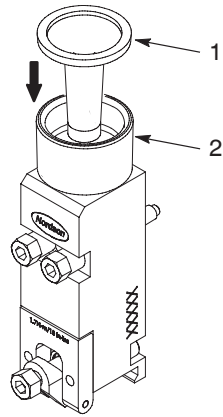

Figure 9-14 Using the base tool to push the needle-and-piston assembly into the module body
5. See Figure 9-14. Use the base tool to push the needle-and-piston assembly through the seal and into the bore of the module body until it seats.